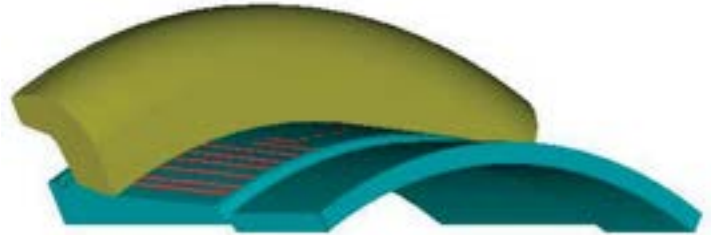

FIGURE 3
- Entire 5 degree area of the rim or wheel back section where the tyre bead will contact during the seating procedure (See Figure 3).